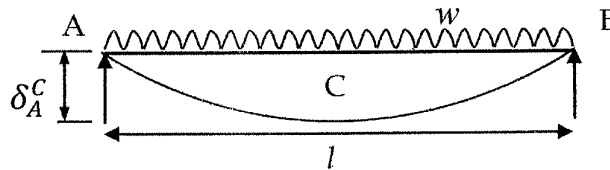

Figure Q2a
- (ii) As shown in **Figure Q2a**, Beam AB is subjected to a uniformly distributed load (w) along the beam. Flexural rigidity of the beam is EI . Using **Mohr's 1st and 2nd theorems**,